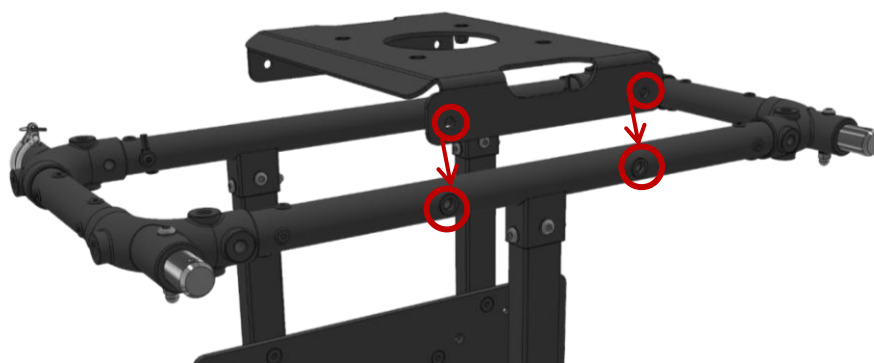

Figure 37 Positioning the ECO-ABP-EP1.0 over the ECO-FRAME-EP1.0
Step 1: Position the ECO-ABP-x on the side of the ECO-FRAME-x so that the four mounting holes align with the M6 threaded holes on the frame as can be seen in Figure 37.